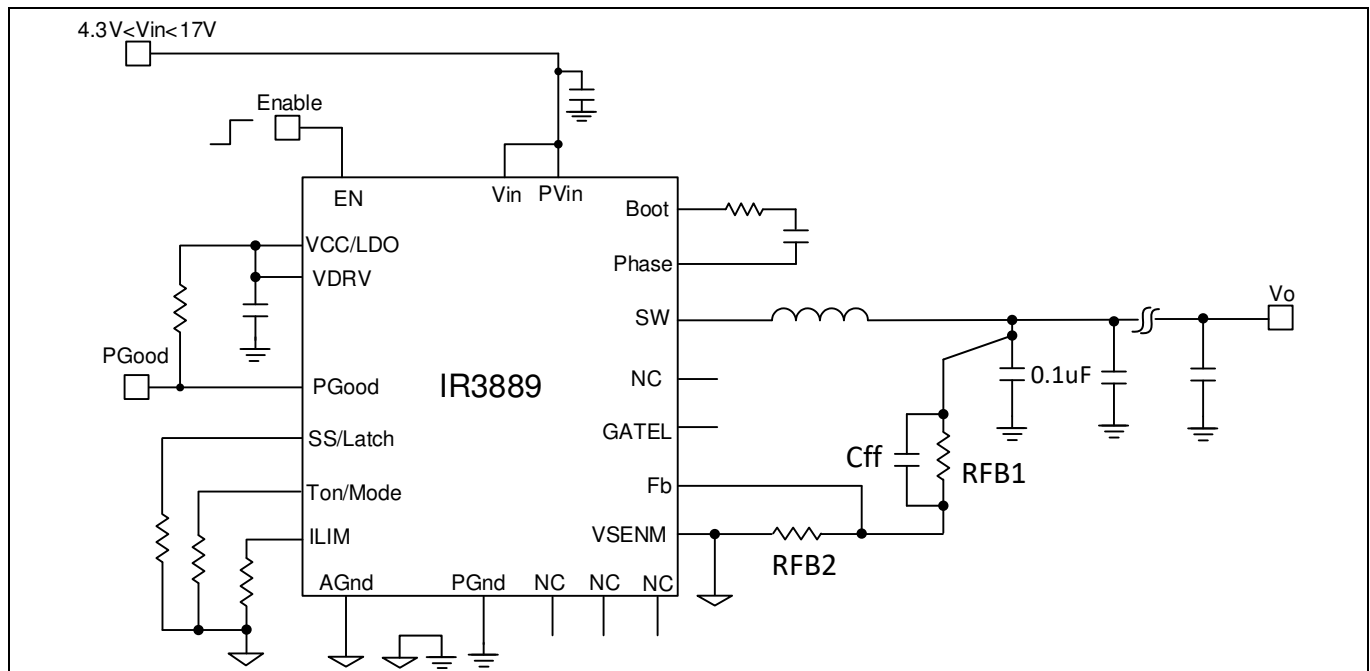

Figure 23 Single-ended Vo sense configuration
- Single-ended Vo sensing is often used for local sensing. To implement this configuration, following design guidelines should be followed, as illustrated in Figure 23.